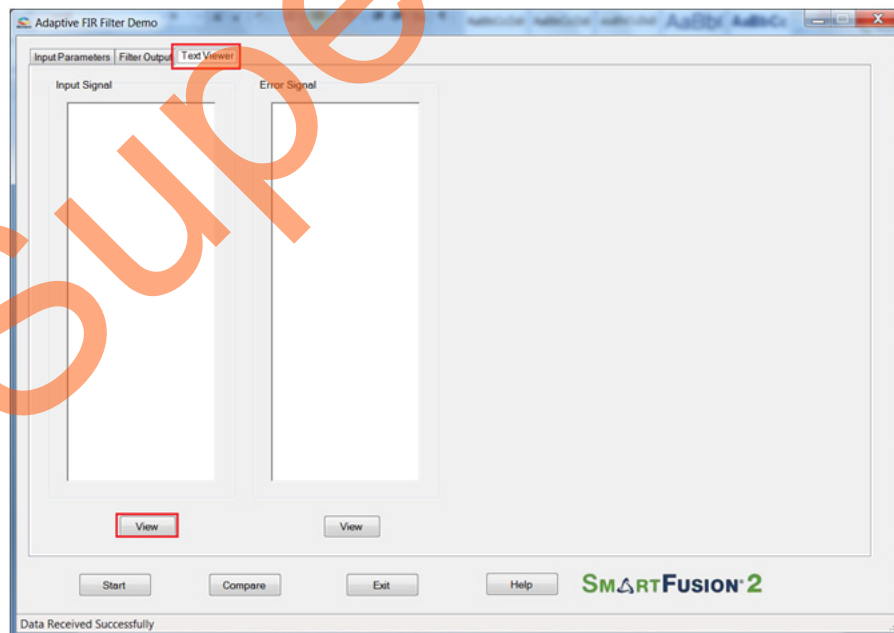

Figure 28 • Text Viewer
15. The input signal and error signal values can be viewed in the **Text Viewer** tab. Click on the **Text Viewer** tab and then click on the corresponding **View** shown in Figure 28.